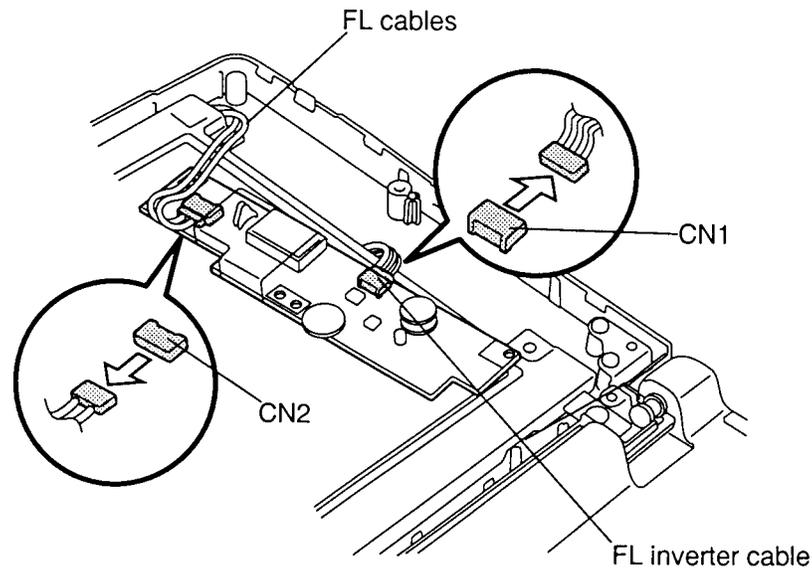

Figure 4-29 Disconnecting the FL inverter board
4. Carefully rotate the FL inverter board out from right to left and disconnect the FL inverter cable from CN1 and the FL cable from CN2 (figure 4-29).
1. Connect the **FL inverter cable** to **CN1** on the **inverter board** and the **FL cable** to **CN2** (figure 4-29).